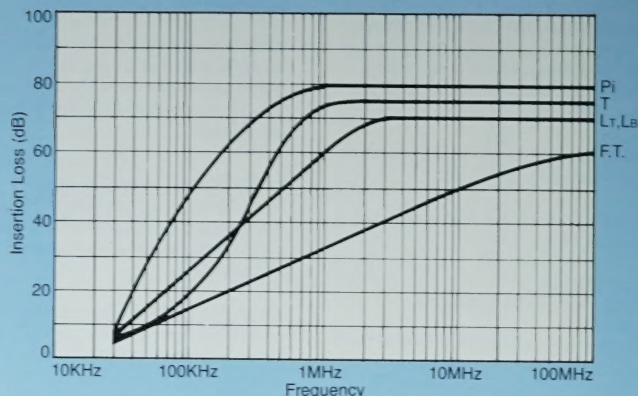

Figure 2.
1. Each additional element improves the slope of the I.L. That is, the stop band will be reached much faster with each section added. (See Figure 2.)